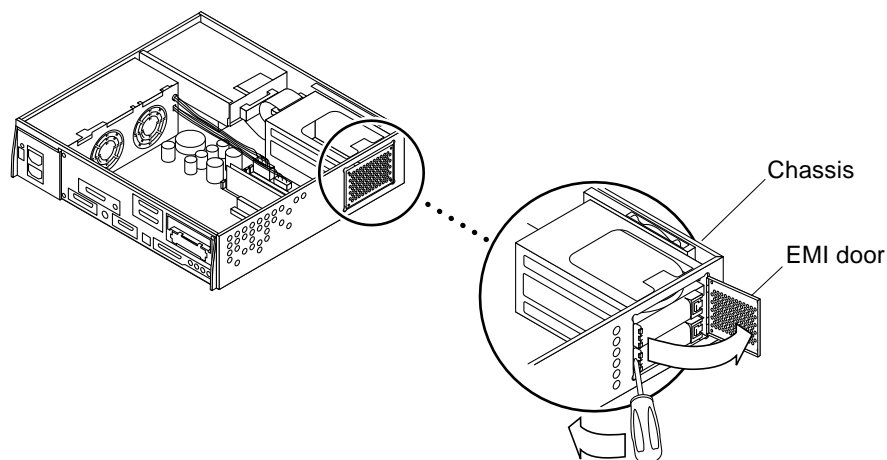

Figure 2-7 EMI Door
- a. Open the EMI door with a screwdriver (Figure 2-7).